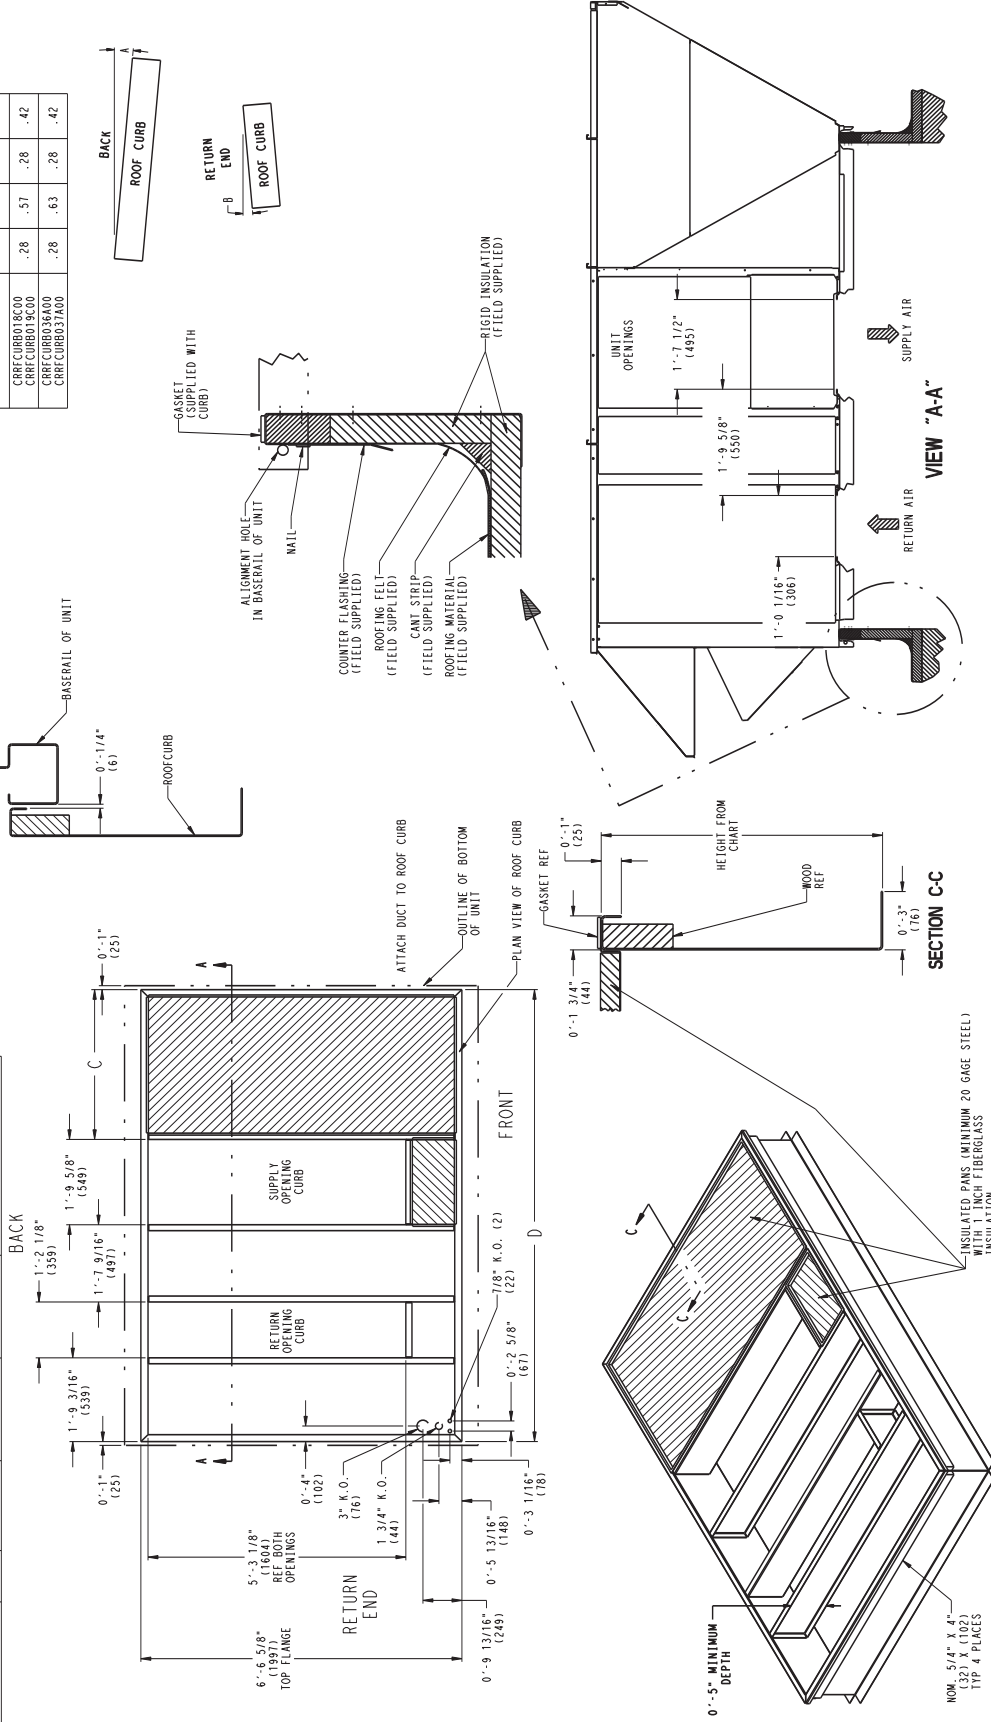

Fig. 1 - Roof Curb Details
Assemble or install accessory roof curb in accordance with instructions shipped with this accessory. (See Fig. 1.) Install insulation, cant strips, roofing, and counter flashing as shown. Ductwork can be installed to roof curb before unit is set in place. Ductwork must be attached to curb and not to unit. Curb must be level. This is necessary to permit unit drain to function properly. Unit leveling tolerance is  $\pm 1/16$  in. per linear ft in any direction. Refer to Accessory Roof Curb Installation Instructions for additional information as required. When accessory roof curb is used, unit may be installed on class A, B, or C roof covering material. Carrier roof curb accessories are for flat roofs or slab mounting.
**IMPORTANT:** The gasketing of the unit to the roof curb is critical for a watertight seal. Install gasket with the roof curb as shown in Fig. 1. Improperly applied gasket can also result in air leaks and poor unit performance. Do not slide unit to position on roof curb.